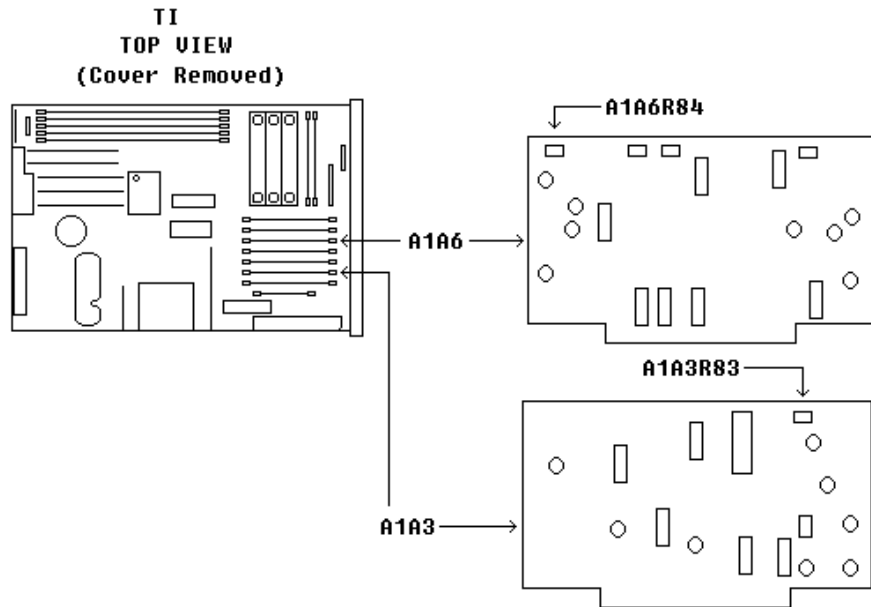

Figure 13. AM adjustment locations.
(2) Press TI keys as listed in (a) through (g) below:
(3) Set the audio analyzer to produce a 1 kHz, 1.06 V output with 600Ω output impedance, then select special function 17.
(4) Set measuring receiver and local oscillator to measure 16.6 GHz, then select **AM** measurement and + **PEAK** detector.
(5) Adjust A1A3R83 (fig. 13) for an indication of 73.0% AM on the measuring receiver (R).
(6) Adjust A1A6R84 (fig. 13) until TI meter indicates 75% on middle scale of output meter (R).